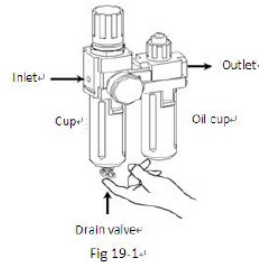

Fig 19-1
- As shown in Figure 19-1, when you find water in the cup, push the drain valve upward with your fingers to evacuate the water; release your fingers after draining the water, the drain valve will automatically close by spring action.